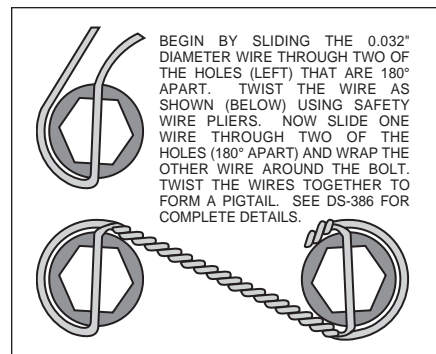

Figure 3. Safety Wire Diagram
- With the larger I.D. side of the rotor (5) facing away from the hat (6), bolt rotor (5) to hat (6) through the backside of the rotor using washers (7) and bolts (8). Using an alternating sequence, apply red *Loctite*® 271 to the threads and torque bolts to 155 **in-lb**. For an added measure of security, the bolts may be safety wired using standard 0.032 inch diameter stainless steel safety wire as shown in Figure 3. Please refer to Wilwood's data sheet DS-386 (available at [www.wilwood.com/Pdf/DataSheets/ds386.pdf](http://www.wilwood.com/Pdf/DataSheets/ds386.pdf)) for complete safety wire installation instructions.